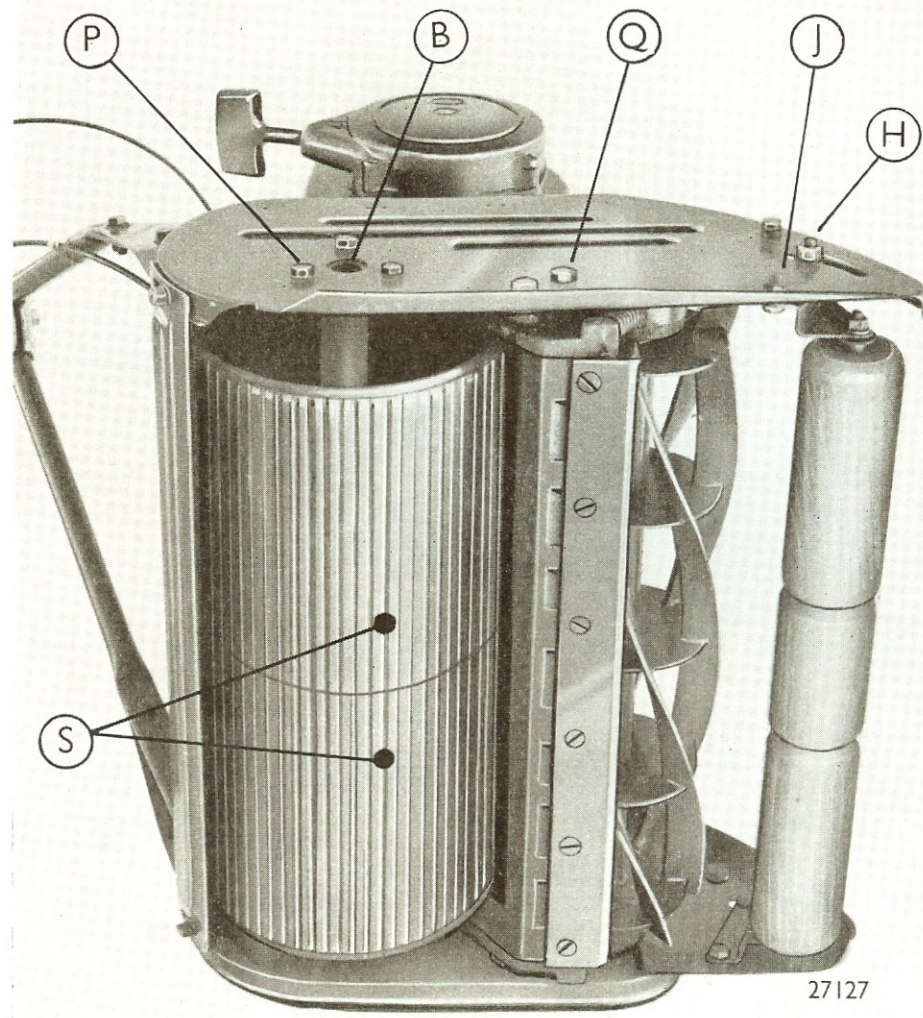

Fig. 5
2. Land roll spindle bearings through nipple B in R.H. end of spindle (fig. 5, page 8) and through nipple C in L.H. side of deck plate (fig. 3, page 5).
3. Land rolls, through nipples S which will be found through surface of each roll (Fig. 5 page 8).
Now unscrew the chain wheel on the land roll spindle noting that this component has a L.H. thread. To prevent the land roll spindle turning with the chain wheel, engage the special key (LCG 427) in the slot at the opposite end of the spindle. After removing the set screws P (fig. 5, page 8) (three each side of the machine) which secure the land roll spindle bearings, the entire assembly may be dropped out of the main chassis.
Remove chaincase cover, concave and driving chains. Prevent the cutting cylinder turning by placing a piece of wood in cutters and unscrew the cylinder pinion, noting that this pinion has a L.H. thread. Remove the two screws Q (fig. 5, page 8) from each side of the machine which secure the cutting unit and the entire assembly can be dropped out of the mower.